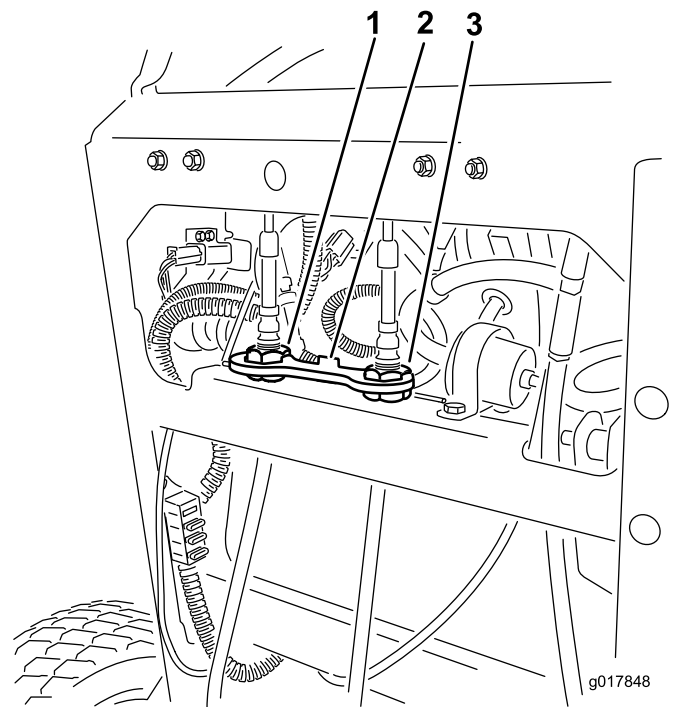

Figure 74
6. Install the cable lock onto the cable-adjusting nuts to secure the adjustment (Figure 74).